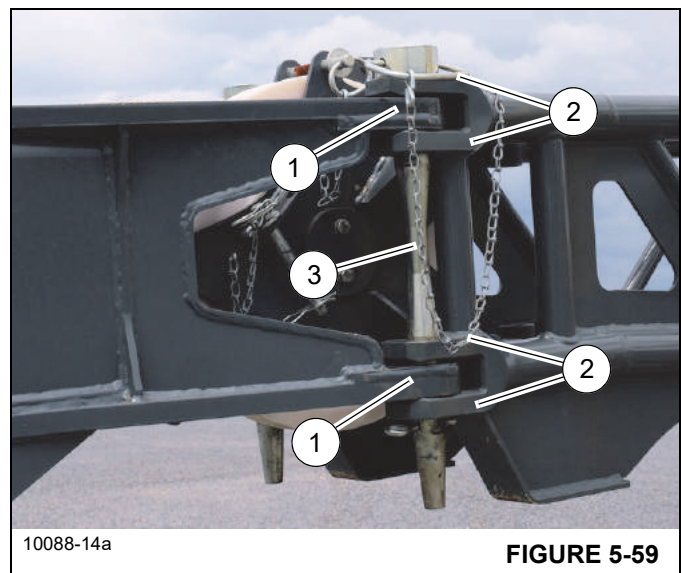

FIGURE 5-59
6. Slightly raise and/or lower the boom to help control the boom extension. Using the tag line, swing the fly section around and engage the fly section attachment fittings (1, Figure 5-59) with the base section anchor fittings (2).
7. Remove the pin (3, Figure 5-59) from its holder on the boom extension and insert it into the left side fittings (1, 2). Secure the pin with the retaining clip.